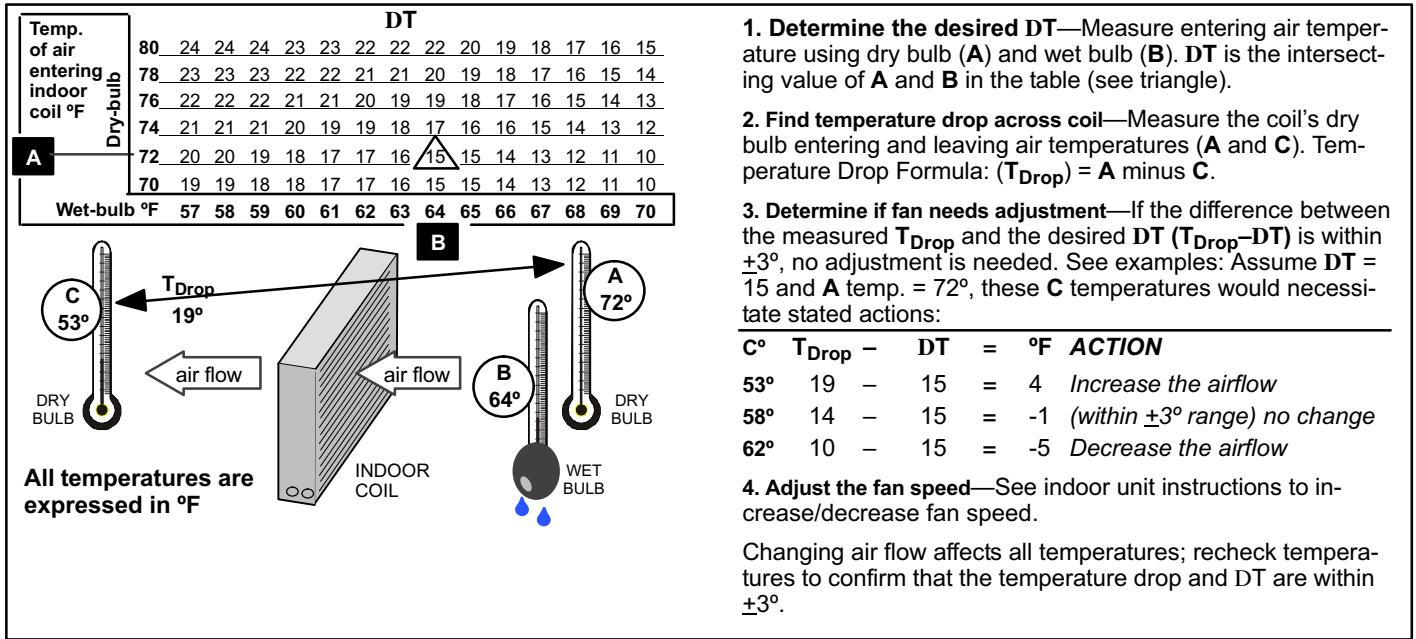

Figure 20. Checking Indoor Airflow over Evaporator Coil using Delta-T Chart
Check airflow using the Delta-T (DT) process using the illustration in figure 20.